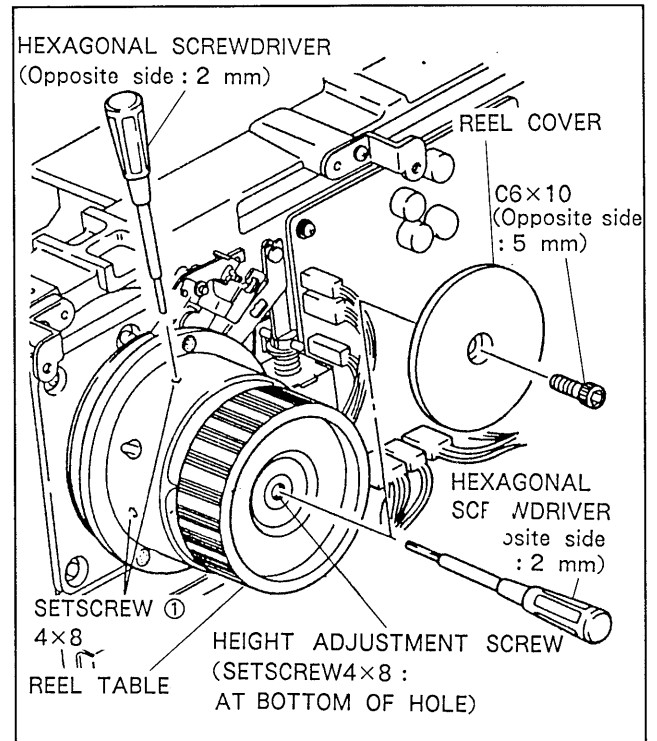

Fig. 6-6-5. Supply Reel Table Height Adjustment
a. Remove the tape and then remove the reel cover while referring to Fig. 6-6-5.